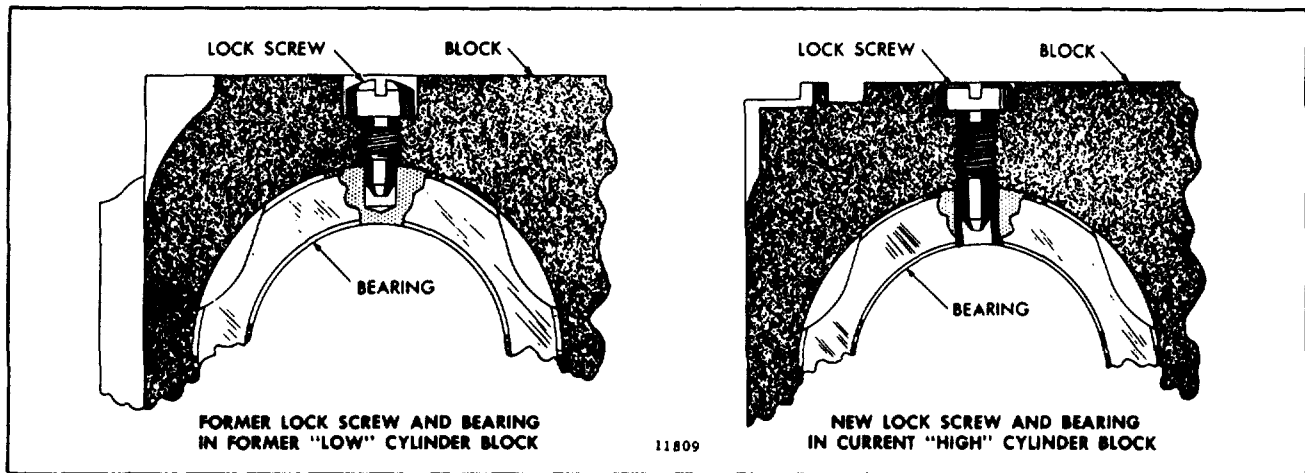

Fig. 13. Camshaft Intermediate Bearing Lock Screws
The current "high" cylinder blocks incorporate longer lock screws than were used formerly on the "low" blocks (Fig. 13).
7. Align the holes in the camshaft intermediate bearings with the tapped holes in the top of the cylinder block (Fig. 13). Install and tighten the lock screws to 15-20 lb-ft (20-27 Nm) torque.